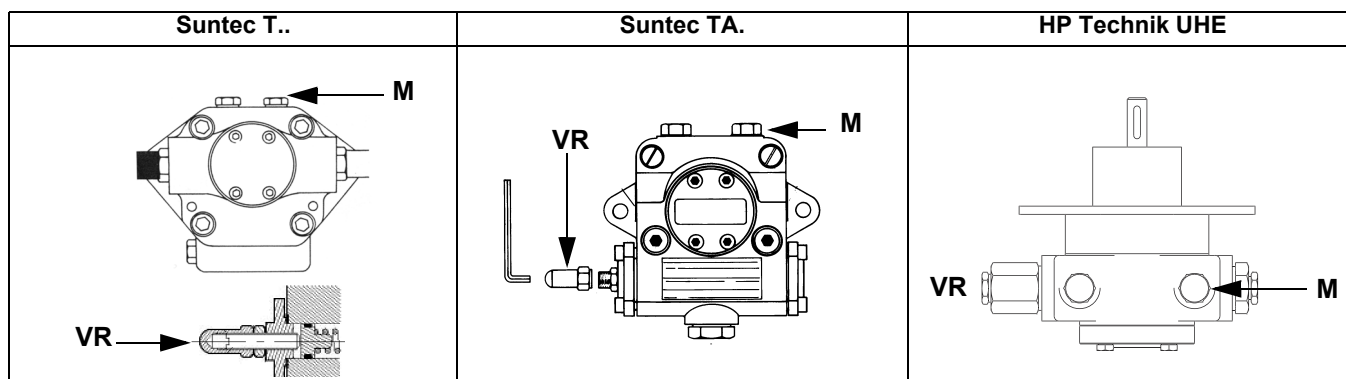

Fig. 6
- 3 bleed the air from the **M** pressure gauge port (Fig. 6) by loosening the cap without removing it, then release the contactor.
- 5 Only if necessary, adjust the supply pressure as follows (see related paragraph); insert a pressure gauge into the port shown on Fig. 7 and act on the pump adjusting screw **VR** (see Fig. 6) as to get the nozzle pressure at 20bar (Monarch or Fluidics nozzles - see page 45-38).